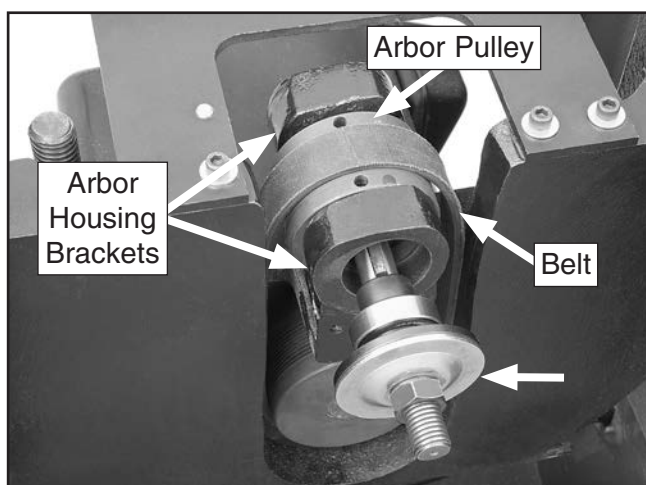

Figure 145. Re-installing arbor and belt.
24. Place arbor pulley between arbor housing brackets, slide belt over pulley, then insert arbor into pulley, as shown in **Figure 145**.